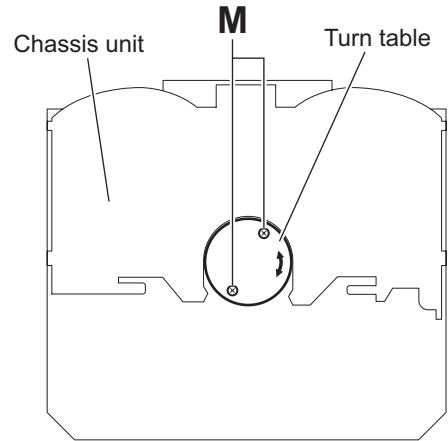

Fig.27
3.2.20 Removing the spindle motor assembly (See Figs.27 and 28)
- From the top side of the chassis unit, turn the turn table from side to side and remove the two screws **M** attaching the spindle motor assembly through the hole of the turn table. (See Fig.27.)